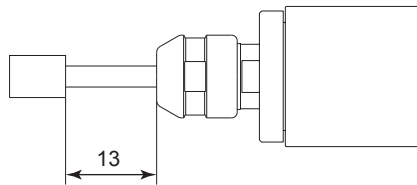

Fig. 45
- ① The proper surface speed for general grindstones is 10-30m / s.
- ② Do not exceed 13mm of overhang for mounted grindstones as shown in Fig. 45. If the overhang must exceed 13mm, reduce the motor speed in accordance with table 6.
- ③ Dress the grindstone prior to use.
- ④ Do not use cutting tools with bent or broken shanks, cracks or excessive run-out.
- ⑤ For grinding, the maximum depth of cut should not exceed 0.01mm radially or axially. Reciprocate the tool several times after each pass to eliminate tool pressure.
- ⑥ Always operate tools within the allowable recommended speed of the tools. Use of a tool outside of the allowable speed of the tools could cause damage to the spindle and injury to the operator.
- ⑦ Keep the tool shank and collet clean. If contaminants are left in the collet or collet nut, excessive run-out will cause damage to the tool and or spindle.
- ⑧ Do not strike or disassemble the motor spindle.
- ⑨ Please set the tools to minimize the overhang amount. 13mm is the maximum amount of overhang to maintain high accuracy and safety.